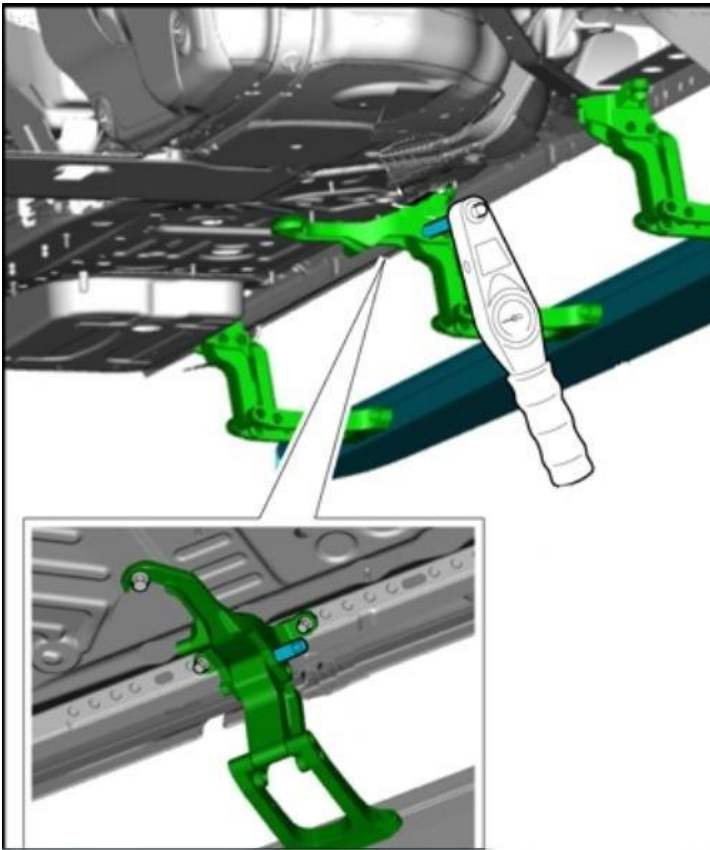

Figure 1
6. Remove both sill step motors and measure the deployment resistance – figure 1 - Refer to Repair Group 66 - Exterior equipment – Accessories – Deployable sill steps – to fit. Video the procedure and provide results.